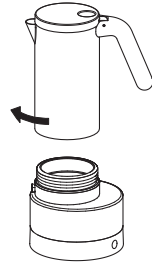

Fig. 6
- Screw the upper body clockwise onto the boiler until it is completely closed. (fig. 6)